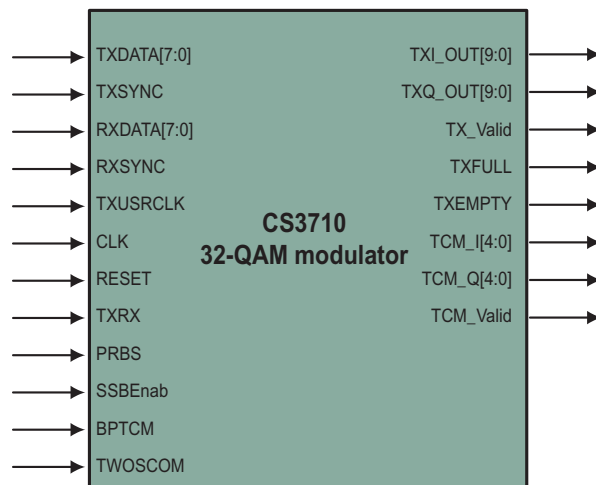

Figure 2: CS3710 Symbol
Table 1 describes the input and output ports (shown graphically in Figure 2) of the CS3710 modular core. Unless otherwise stated, all signals are active high and bit(0) is the least significant bit.